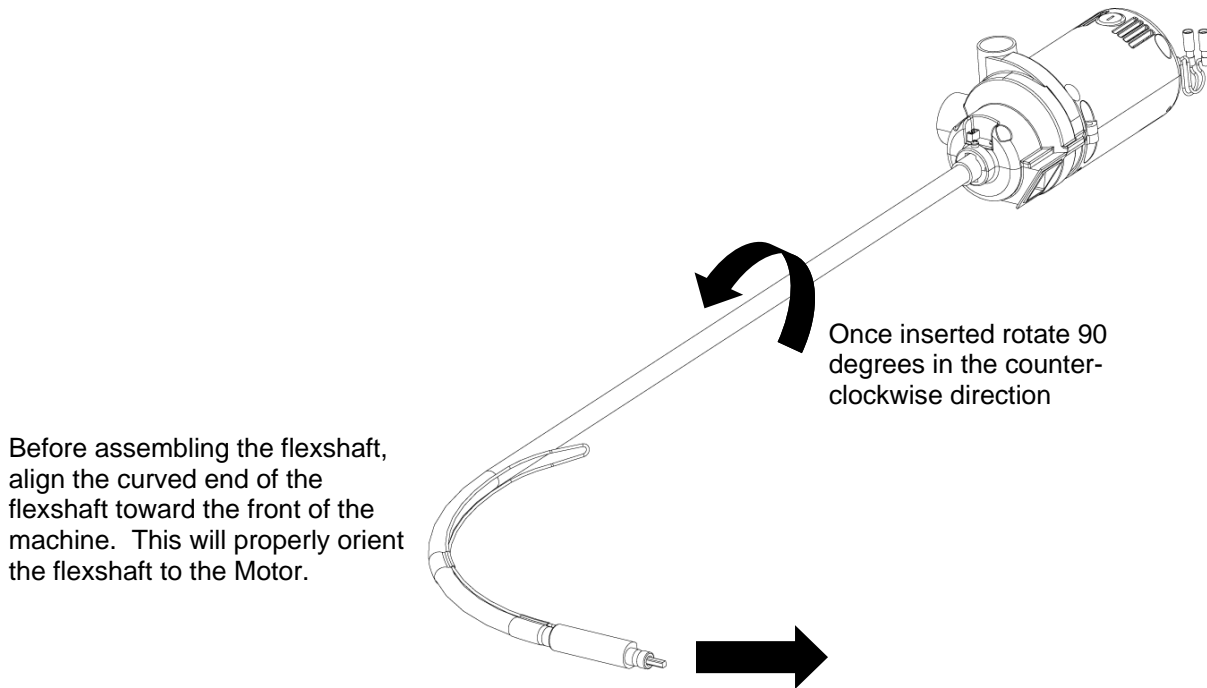

FIGURE 15: INSERTING THE FLEXSHAFT
1. **Assemble the Flexshaft Sheath onto the AC motor.** Orient the curved end of the flexshaft assembly toward the front of the machine as shown in Figure 15 and insert the tabs on the end of the flexshaft sheath assembly into the slots on the AC motor housing. Turn the flexshaft assembly 90 degrees in the counter clockwise direction and tighten the flexshaft retaining screw. **Failure to correctly orient the flexshaft during assembly can cause the core to bind and overheat very rapidly.**